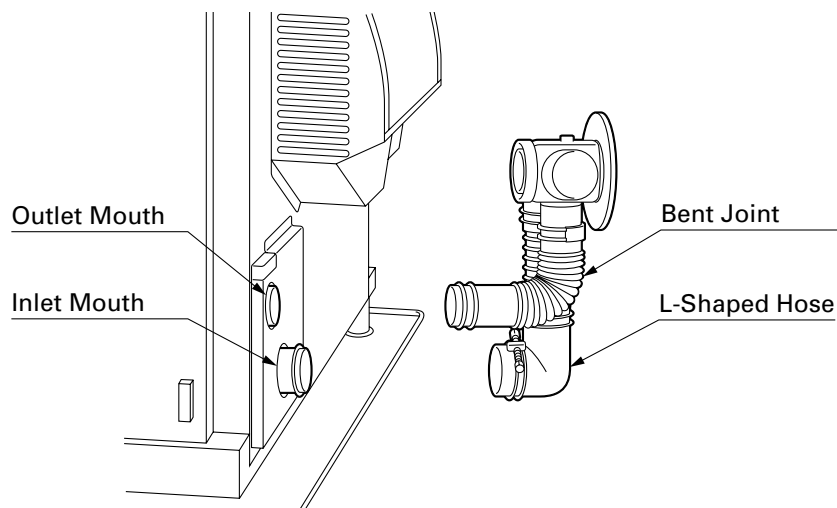

Fig. 11
8. Move the heater into position. Connect the bent joint to the exhaust outlet mouth (upper opening) and attach the L-shaped hose to the intake inlet mouth. Make sure all connections are tight (See Fig. 11).